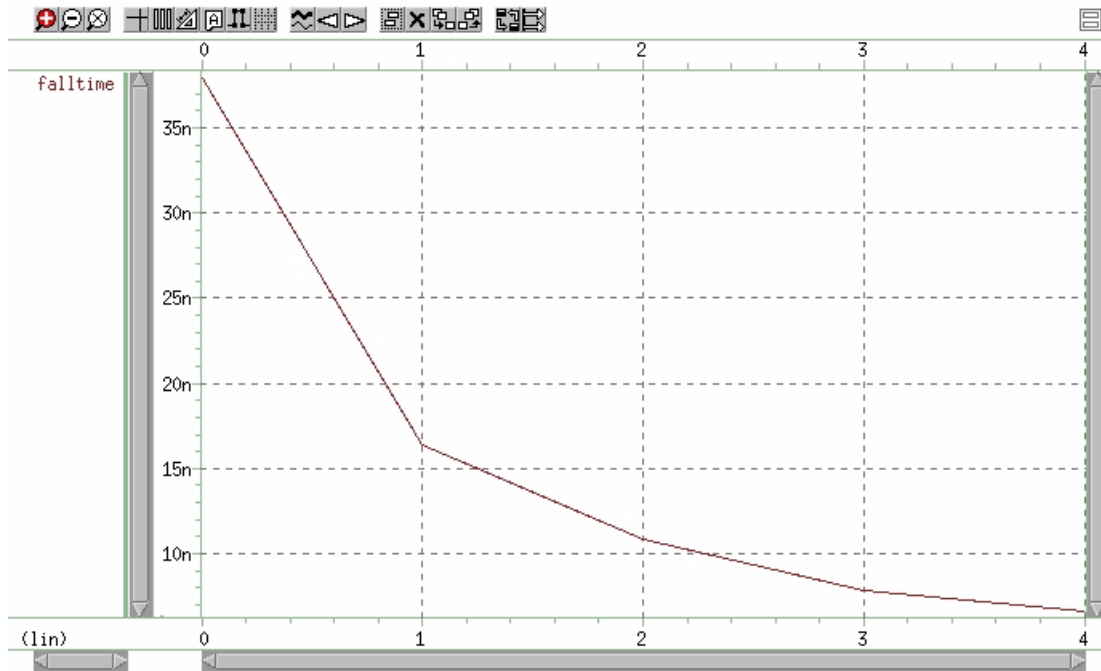

Figure 240 Plot of Measured Variable falltime vs. Amplifier Input Voltage
7. Repeat Step 5 to plot $v(clamp)$. You should see a plot similar to the one shown in Figure 240.
17. Left-click on the signal *falltime*. Drag and drop the selected signal into the WaveView panel. You should see a plot similar to the one shown in Figure 240 on page 924.